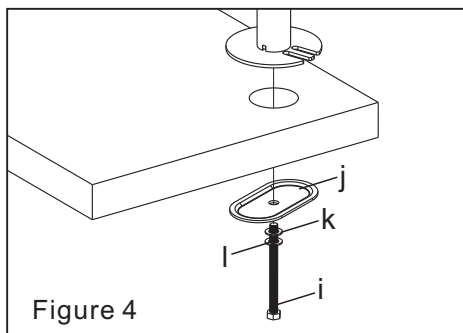

Figure 4
2. Position the Pole(a) on the mounting surface and secure using the Support Plate (j), M10 Washer(k), Spring Washer(l) and M10 Bolt(i). Fasten the M10 Bolt using provided Wrench(p), see Figure 4.